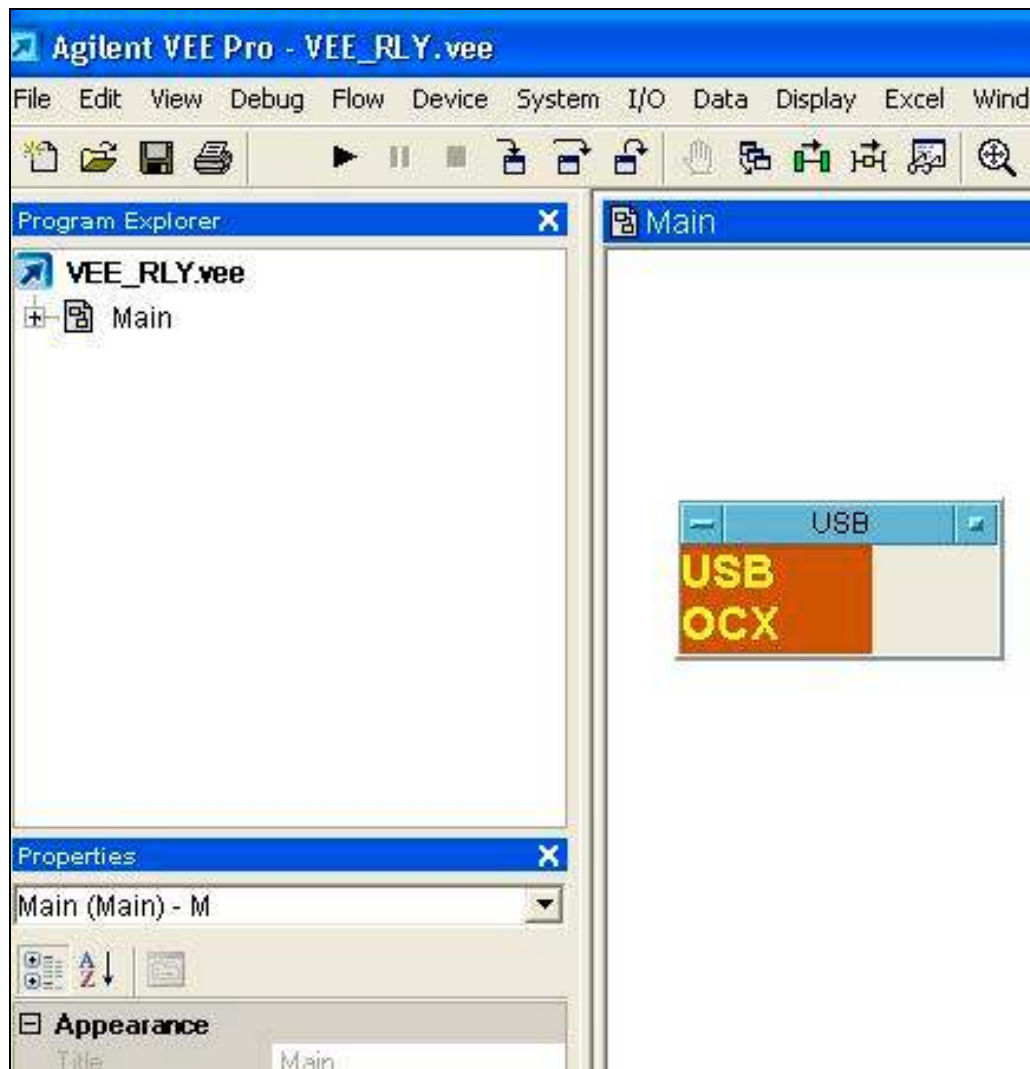

Figure 4.
5. On the screen you will see Figure 4 below.